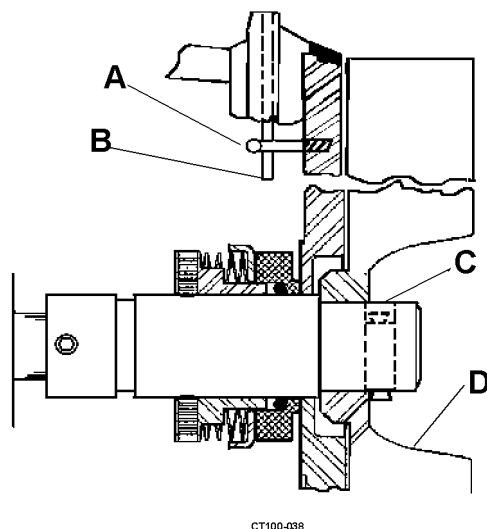

Figure 27 - Backplate Installation
5. Rotate the backplate until the backplate pins engage the adapter pins. (See Figure 27 item A and B).
6. Rotate the shaft until the pin hole in the end is in a horizontal position. Insert the impeller pin (See Figure 27 item C), center
it in the shaft end and slide the impeller (See Figure 27 item D) on the shaft.
1. Install the backplate, gasket, and casing. See Figure 27 on page 28.